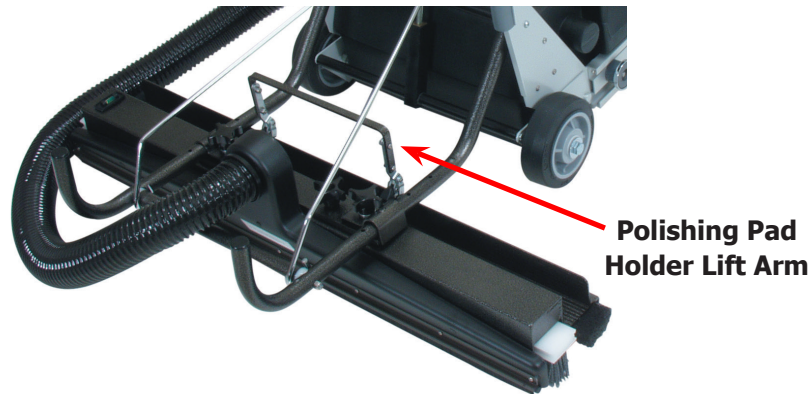

Figure 16. Set Lift Arm in Up Position
1. To seat the cleaning brush in the grooves, set the polishing pad holder lift arm in the "up" position (see Figure 16).
Pull the pad holder lift arm back toward the machine and down (see Figure 16). This lowers the polishing pad to the tread surface and simultaneously lifts the brush bristles from the grooves.